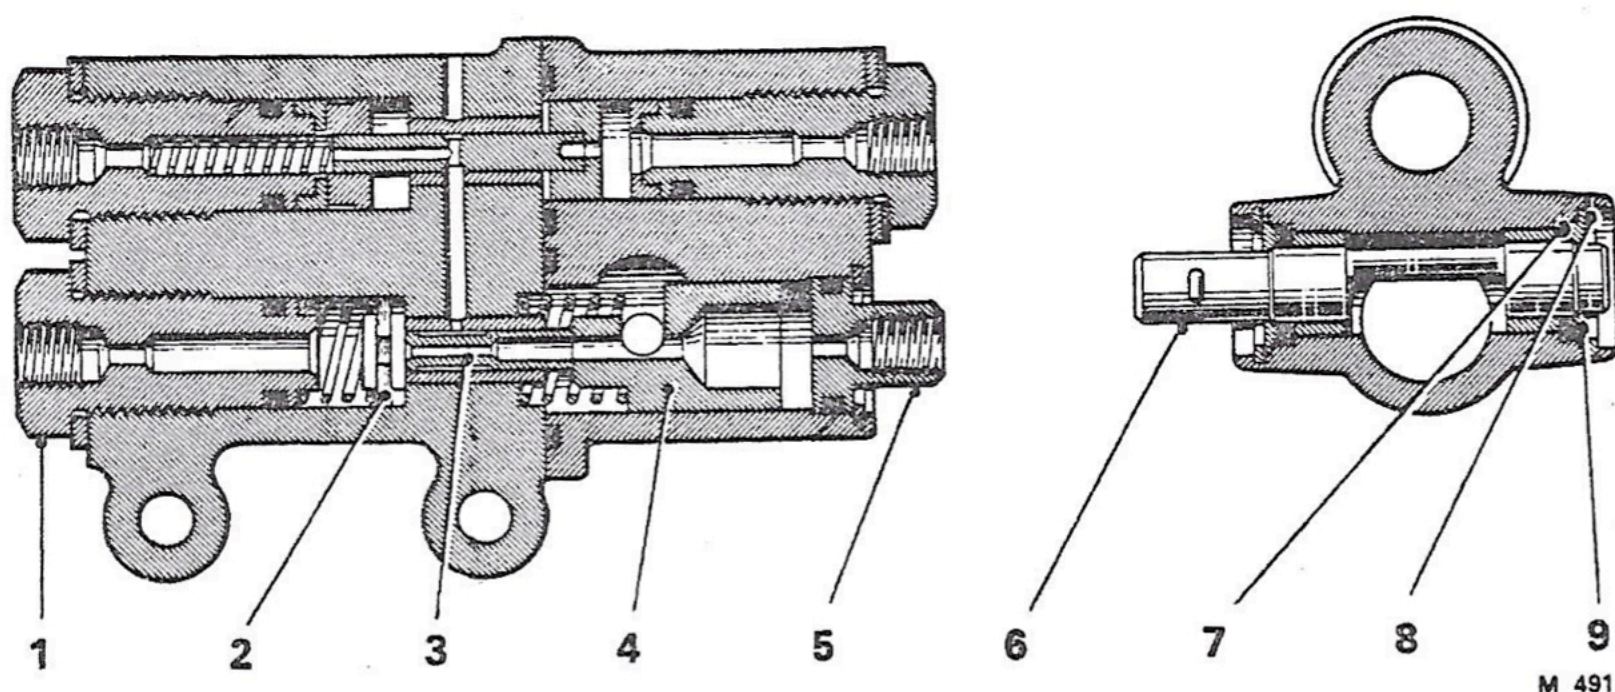

Fig. 1 Sectional View - Rear Height Control Valve
8. Remove the circlip and reservoir adaptor (see Fig. 1).